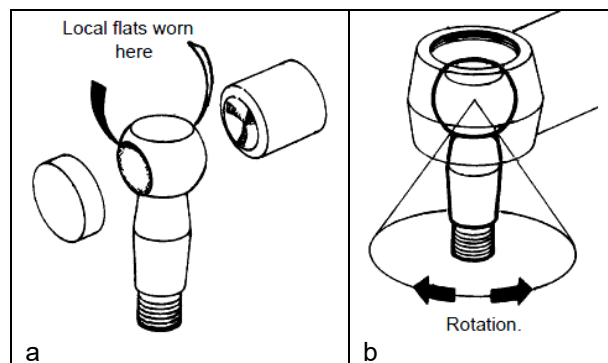

FIGURE 31: BALL PIN HAS LOCAL WORN FLATS
If ball pin does not rotate when re-adjusted in line with above instructions, this suggests that ball pin has local worn flats as shown in FIGURE 31 (a). In this instance ball pin, thrust cup and rubbing pad MUST be replaced, if not FAILURE could occur in service, i.e. ball pin not being able to move in assembly when turning from lock to lock as shown in FIGURE 31 (b).
**NOTE: If ball pin does not rotate when re-adjusted in line with above instructions, this suggests that ball pin has local worn flats. In this instance ball pin, thrust cup and rubbing pad MUST be replaced, if not FAILURE could occur in service, i.e. ball pin not being able to move in assembly when turning from lock to lock (see FIGURE 31).**